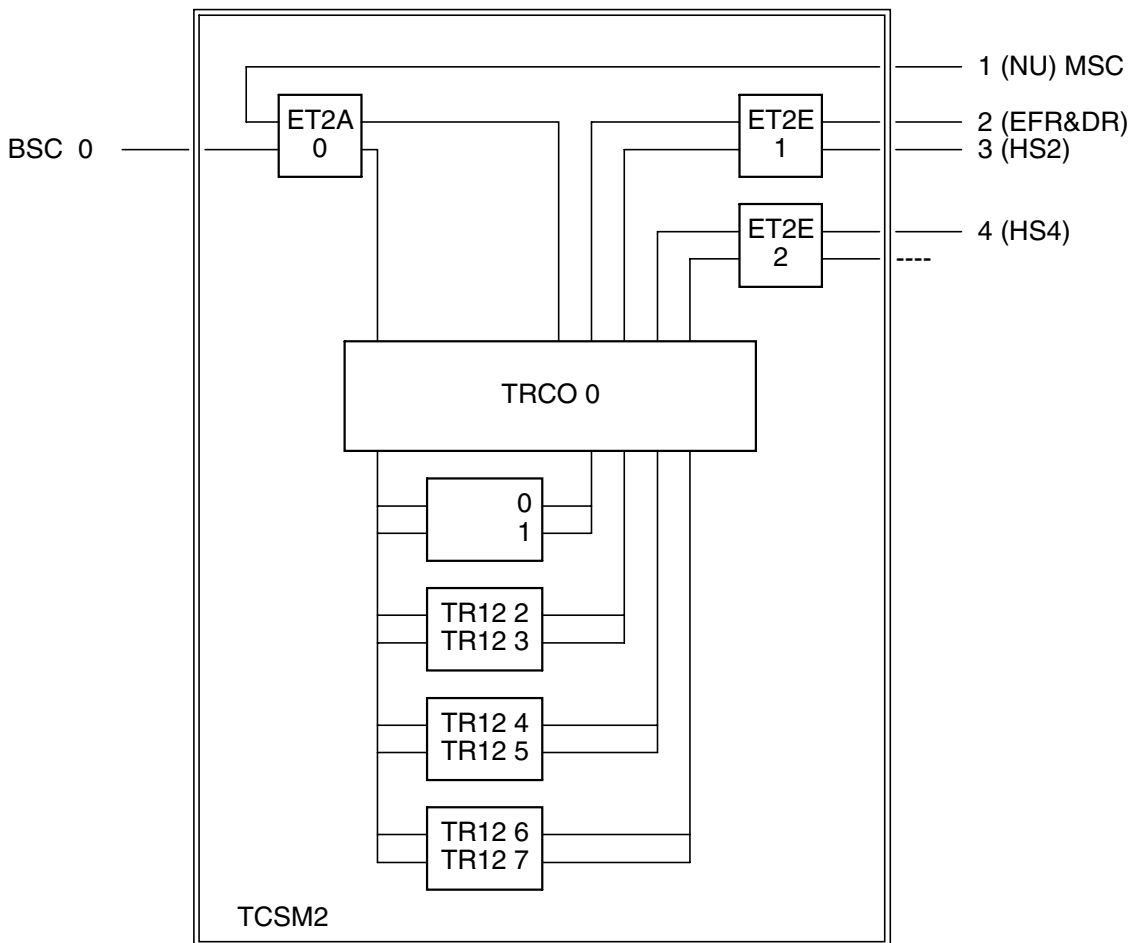

Figure 3. Example configuration of a TCSM when TCSM2A-C in use
- Figure 3. Example configuration of a TCSM when TCSM2A-C in use **14**